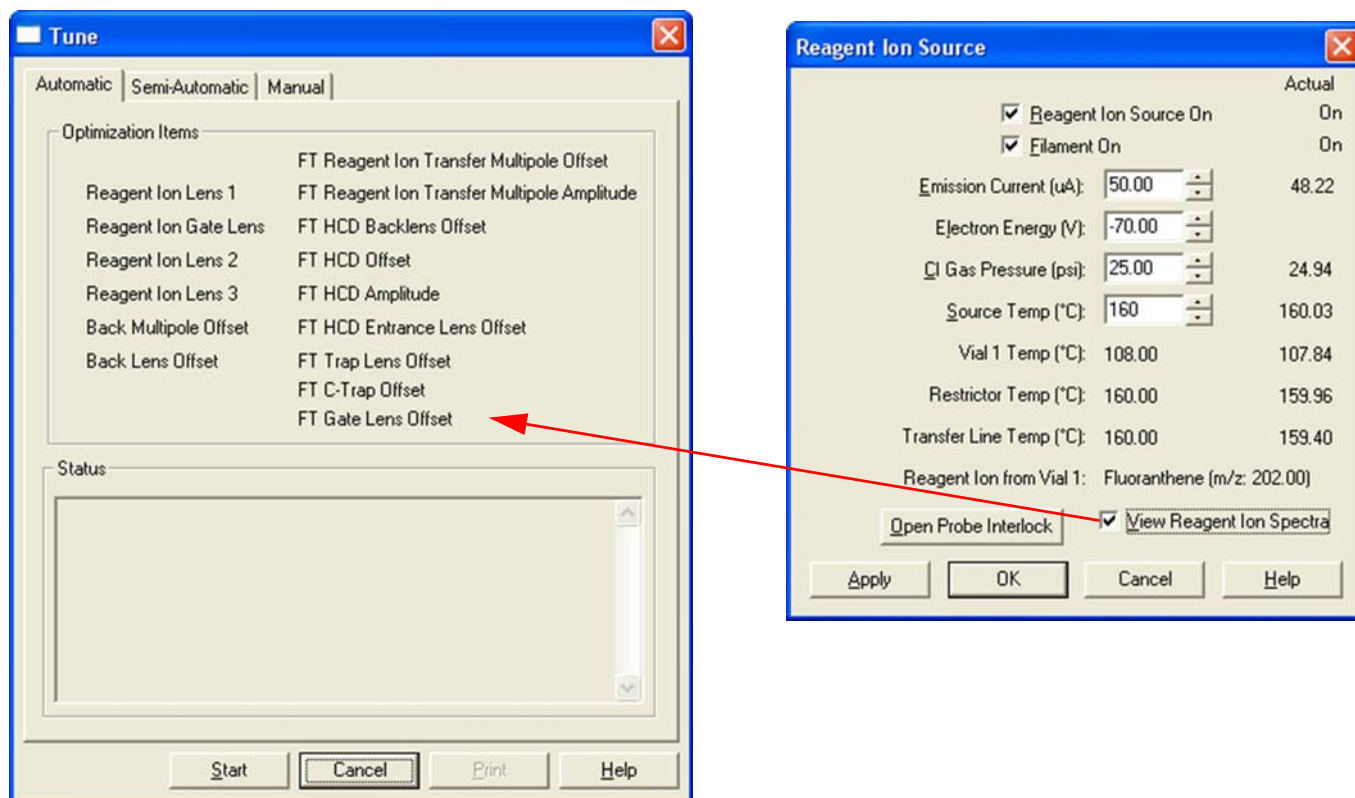

Figure 7-11. Activating Reagent Ion Source tuning
5. In the Reagent Ion Source dialog box, select the **View Reagent Ion Spectra** check box. (See Figure 7-11.)
The Tune dialog box opens with the Automatic page shown by default (Figure 7-11 on page 7-13).